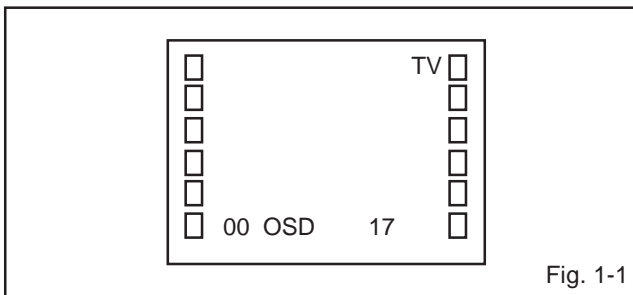

Fig. 1-1
1. In the condition of NO indication on the screen. Press the VOL. DOWN button on the set and the Channel button (9) on the remote control for more than 1 second to appear the adjustment mode on the screen as shown in Fig. 1-1.
4. Activate the adjustment mode display of Fig. 1-1 and press the channel button (01) on the remote control to select "CUT OFF".
4. Activate the adjustment mode display of Fig. 1-1 and press the channel button (10) on the remote control to select "R.BIAS".